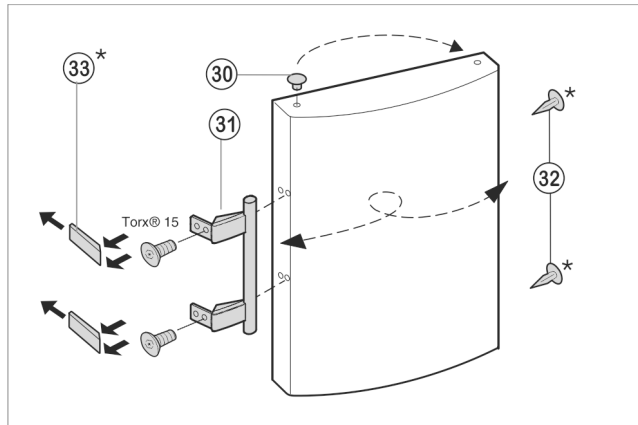

Fig. 10
- ▶ Lift the stopper *Fig. 10 (30)* out of the door bearing bush and transfer it.
- ▶ Detach door handle *Fig. 10 (31)*, stoppers *Fig. 10 (32)* and pressure plates *Fig. 10 (33)* plates and transfer to the opposite side